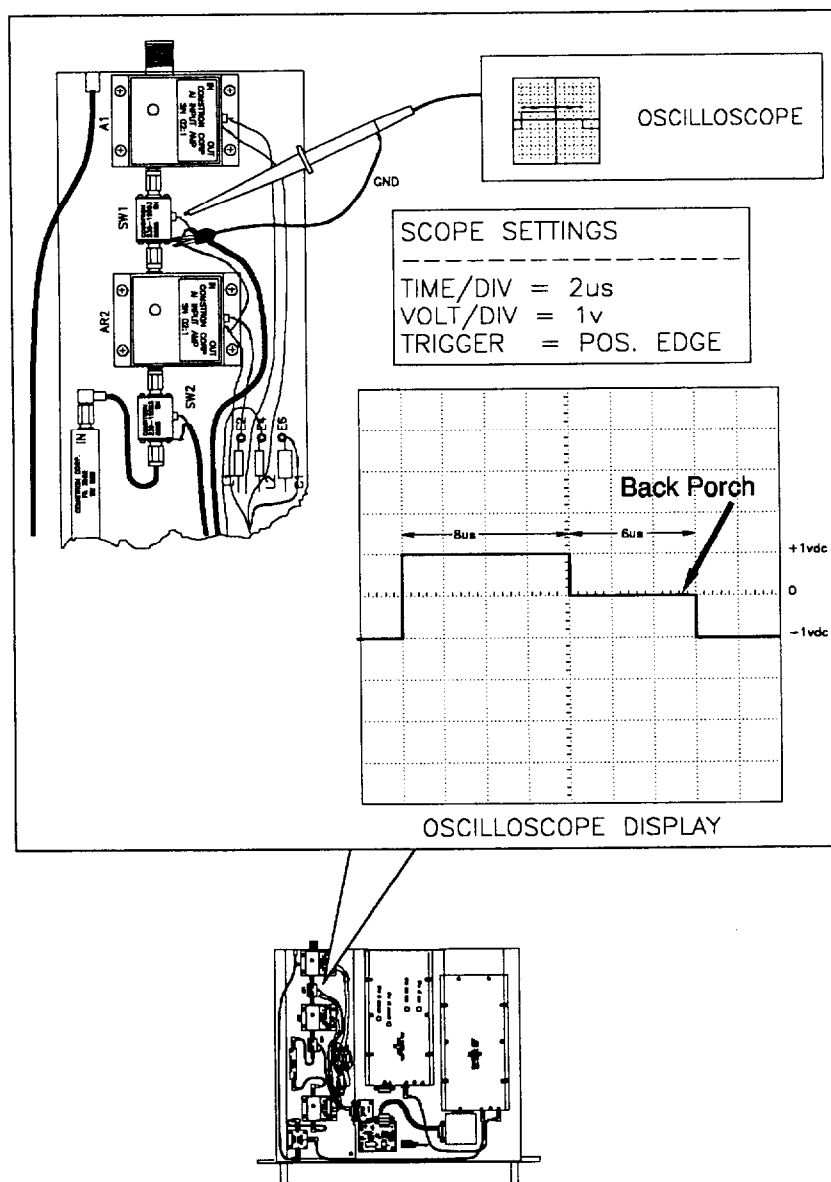

Figure 2
2. Connect the oscilloscope probe to the PIN diode attenuator (SW1) as shown in figure 2. Use DC coupling. Set the oscilloscope to 1 volt/div vertical deflection and a 2 microsecond/div sweep time. Trigger on the rising edge of the waveform.
4. The profiler beam switches every minute in the following order: east-high, east-low, north-high, north-low, vertical-high, and vertical-low mode. When the profiler is in the low mode of any beam, the waveform should resemble the oscilloscope display in figure 2. During the high mode the +1 volt level is about 39 microseconds. During any low mode, adjust the **LOSS** and **TIME** potentiometers on the STC module for a 0 volt, 6 microsecond "back porch" as shown in figure 2. The factory preset the **TIME** potentiometer for 6 microseconds. If needed, re-adjust for 6 microseconds.